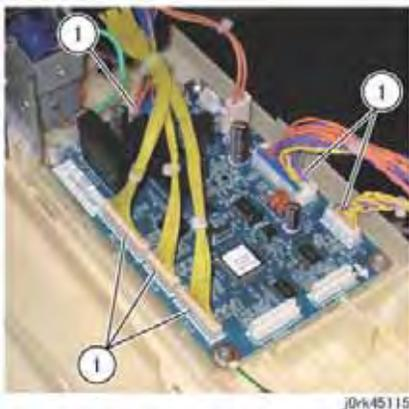

Figure 1 DADF PWB Connectors
3. Disconnect the DADF PWB connectors. (Figure 1)